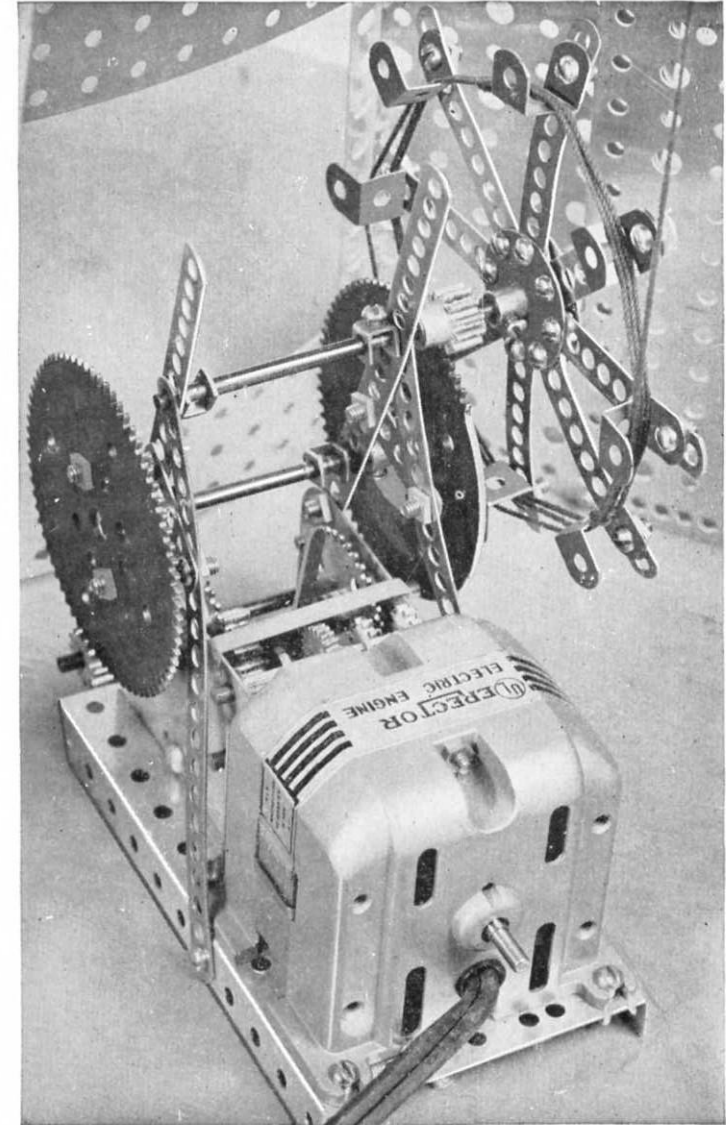

FIGURE 6
a P50B 72 tooth gear segment as shown in Figure 6. Through the top holes in the "A" frame, attach an (AT) 4" axle. On this axle fasten a P13B 12 tooth pinion gear which will mesh with the teeth of the gear segment. To this shaft is also fastened the reel on which the string winds. This reel is built of two (BT) pierced discs, 4 (I) 21 hole strips and 8 (M) small double angles. Figure 6 shows a clear view of the reel.